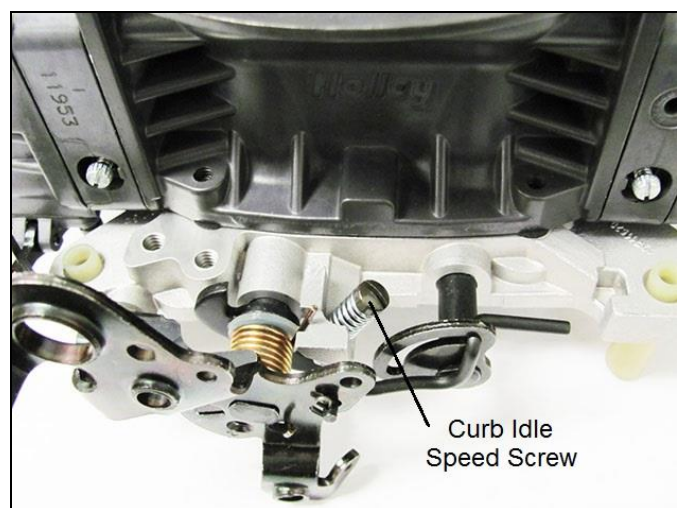

Figure 4
3. Now that the idle mixture is set, it may be necessary to go back and reset the idle speed using the curb idle speed screw, as shown in **Figure 4**.